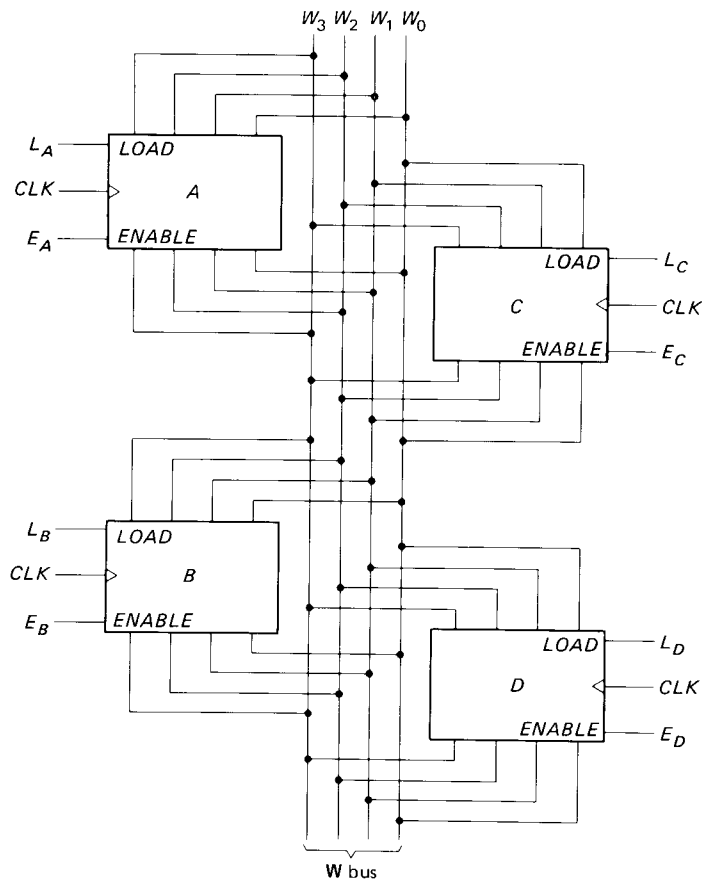

Fig. 8-34
- 8-18. In Fig. 8-34, we want to transfer the contents of register D to register C. Which are the ENABLE and LOAD inputs you should make high?